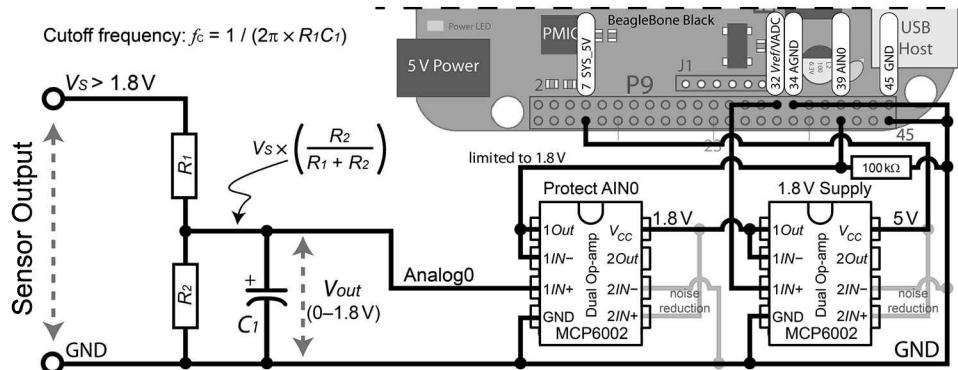

Figure 9-11: Scaling an input signal using voltage division with op-amp ADC protection in place
Figure 9-11 illustrates a voltage division circuit and its integration with the 1.8V op-amp protection circuitry discussed in the last section. Voltage follower circuits also act as *buffer* circuits. The maximum input impedance of the *AM335x* ADC inputs ranges from about $76\text{k}\Omega$ at the highest frequencies to many megaohms at low frequencies.¹ The voltage divider circuit will further load the sensor output impedance (perhaps requiring further unity-gain buffers before the voltage divider). However, the *MCP6002* will act as a buffer that prevents the sensor circuit from exceeding the maximum input impedance of the ADC (remember that ideal voltage follower circuits have infinite input impedance and zero output impedance). There are some important points to note about this circuit:
- With multi-op-amp packages, unused inputs should be connected as shown in Figure 9-11 (in light gray) to avoid random switching noise.